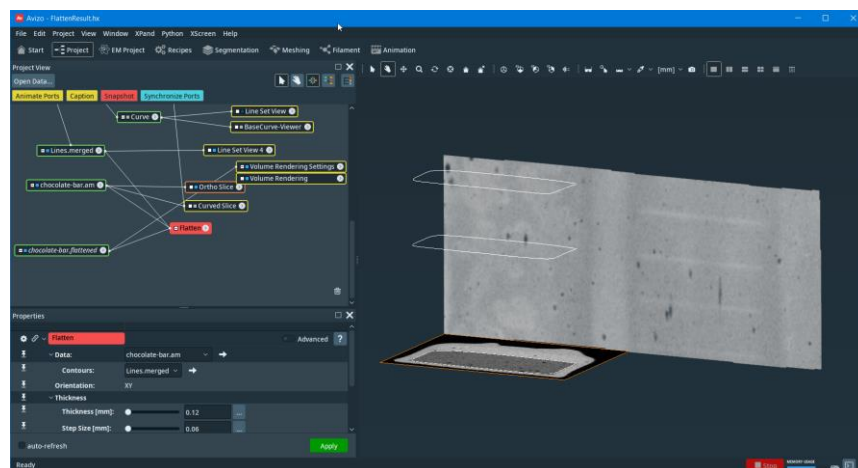

Figure 16
5. By pressing the “Apply” button the “chocolate-bar.flattened” scalar set will be created. You can visualize it by mean of a Volume Rendering module as shown by Figure 16. The project FlattenResult.hx contains the project at the end of the computation of the flatten module.